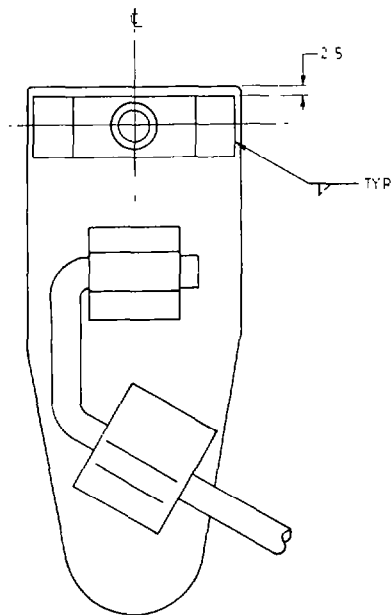

FIG 2 - MODIFIED PEDAL ASSEMBLY
- c. Weld the stop bolt bracket to the accelerator pedal as shown in Fig 2.